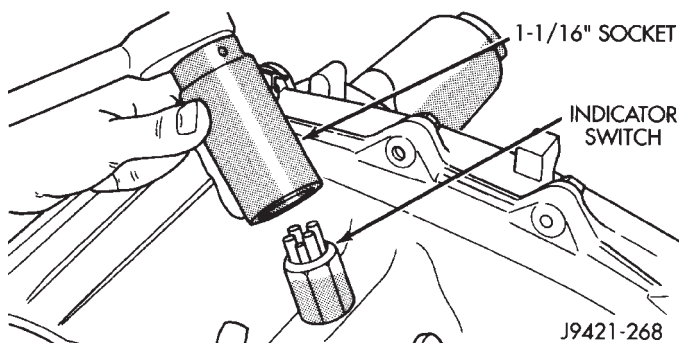

Fig. 84 Vacuum/Indicator Switch Installation
(8) Install vacuum/indicator switch (Fig. 84). Tighten switch to 20-34 N·m (15-25 ft. lbs.) torque. Install new O-ring on switch beforehand, if necessary.
(9) Install new sector shaft O-ring and O-ring